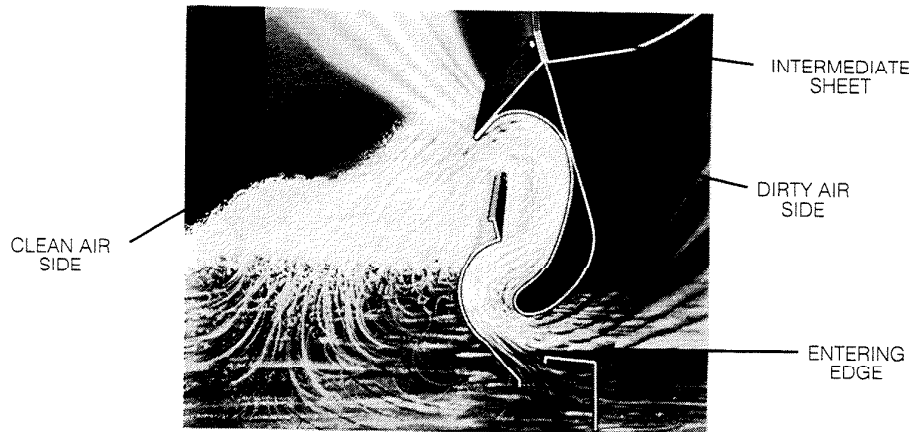

FIG. 1. Cross section of Type N RotoClone Impeller.
The Type N RotoClone cleans the air by the combined action of centrifugal force and a thorough intermixing of water and dust-laden air. The dust is separated from the air by means of a water curtain, created by the flow of air through a partially submerged stationary impeller (see Figure 1). Air flowing through the impeller at a high velocity conveys water with it in a very turbulent sheet. Additional water is introduced at the narrowest portion of the impeller opening through a specially designed slot in the bottom. Since there is a certain pressure drop through the impeller, the water flows upward through the slot in an attempt to reach the water level on the clean air side. This water flow upward through the slot creates increased interaction between the dust and water, thus, increased collection efficiency. Since the water flows upward in an attempt to reach the level on the clean air side of the impeller, the impeller opening can be decreased (resulting in higher pressure drop and collection efficiency) by raising the water level in the unit. This is accomplished by means of an exclusive and patented variable water level control box. The centrifugal force exerted by rapid changes in direction of flow causes the dust particles to penetrate the water film and become permanently trapped (Figure 1).
NOTE: This level can be checked by filling the unit with water until the level reaches the entering edge (Figure 1) of the impeller. This entering edge should be level with the water along its entire length with maximum variation of 1/8" plus or minus. (See Operating Instructions, Item A-2.)
- b. Set collecting section in place so its bolting flange matches hopper flange. Lower carefully, watching for interference between intermediate sheets and impellers. Walls of interior center section, formed by the two intermediate sheets must be inside impeller bolting surface (Figure 1 and 3).
- d. Bolt impellers to intermediate sheets. Before tightening, entering edge (Figure 1) of impellers must be in a straight line. Impellers were installed in the hopper section and aligned at the factory. Each impeller section is matched-drilled with holes in intermediate sheet. Pull these bolts tight and check alignment before tightening remainder of bolts thru slotted holes in impellers and drilled holes in intermediate sheets.